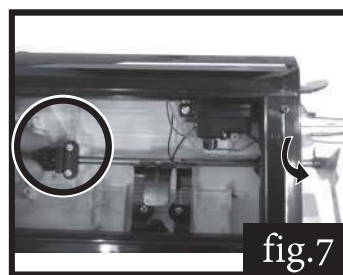

fig.7
7. Hold the rubber part of main shaft, use spanner to release the nut at the end to take the propeller out, fig. 7.